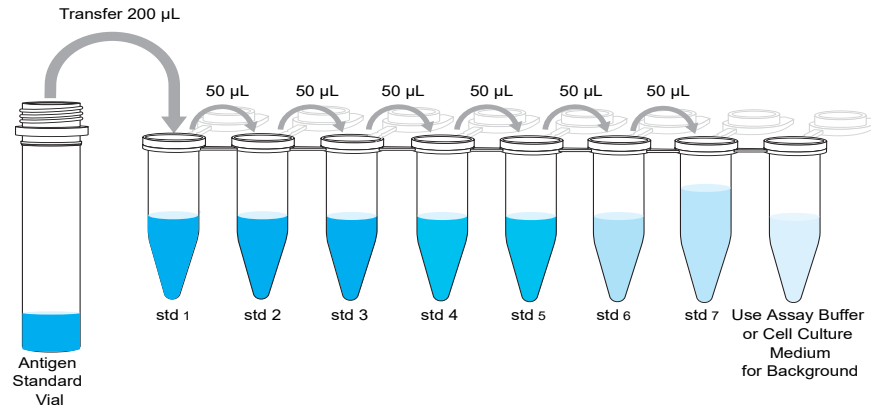

Figure 1 4-fold serial dilution
2. Add 200 μL of the reconstituted Standard Mix into Std1 tube (see Figure 1).